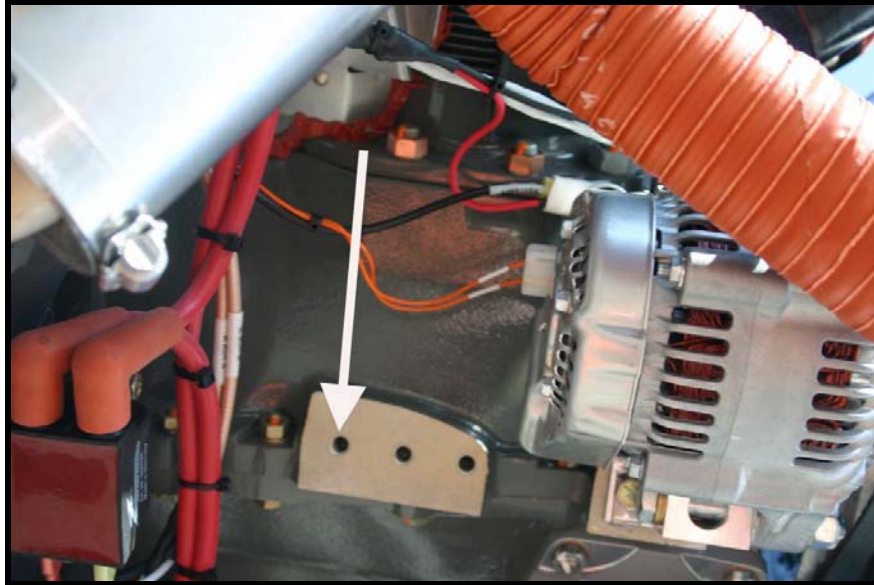

FIGURE 4
4. Clean off area around aft bolt hole on crank case to ensure a good electrical connection. See Figure 4.